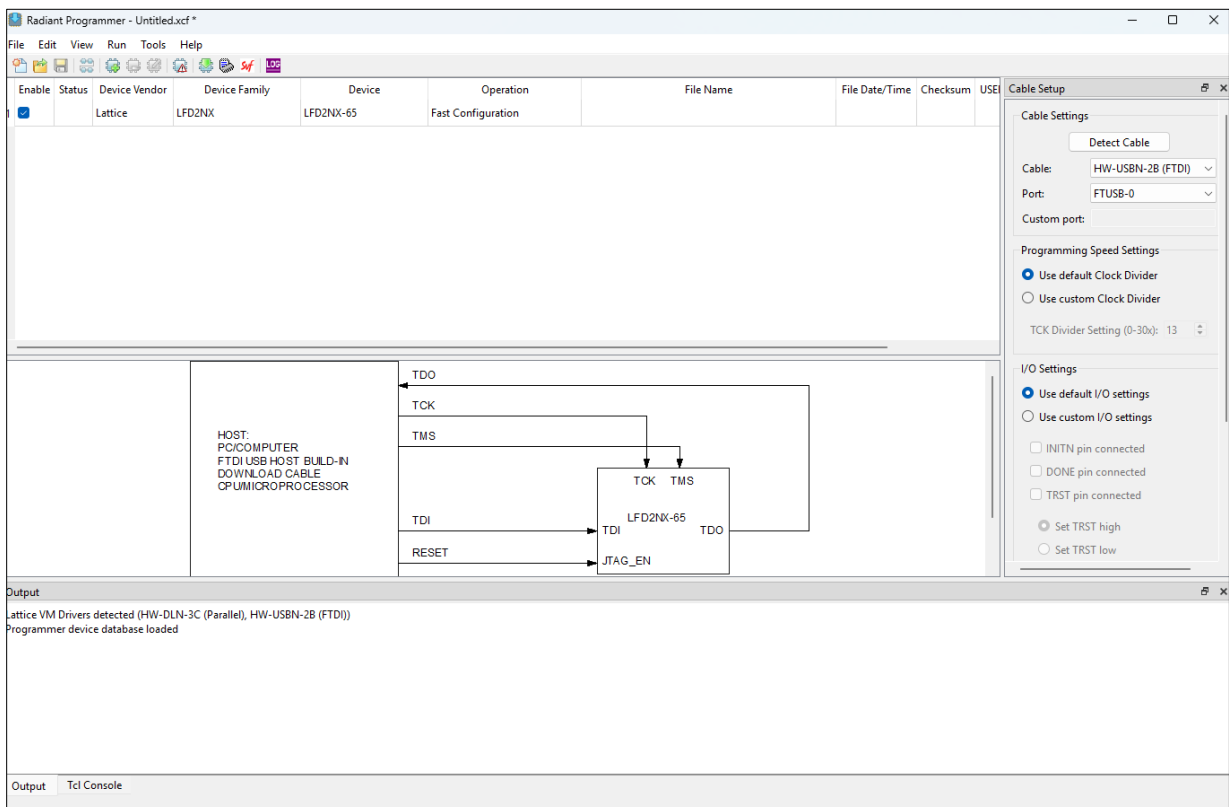

Figure 4.3. Open Radiant Programmer
3. The Radiant Programmer interface opens, as shown in Figure 4.3. Select FTUSB-0 for **Port** in the **Cable Setup** filed.